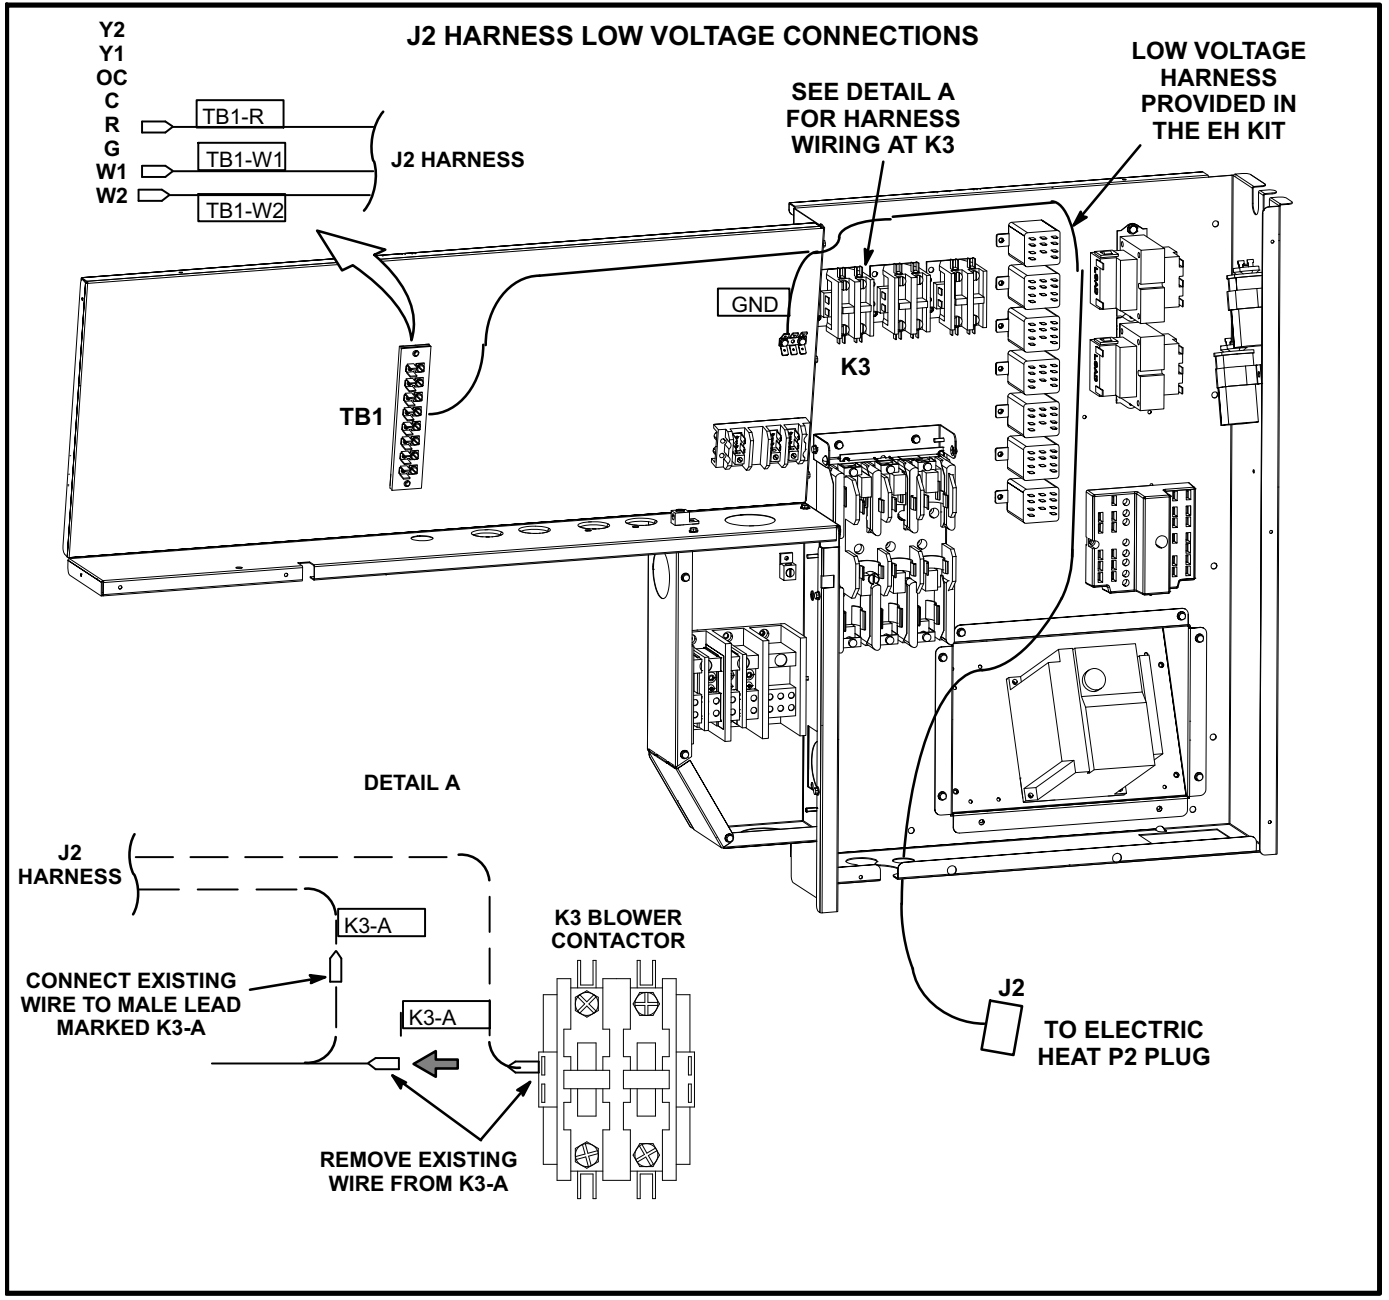

FIGURE 5
- 4- Make J2 harness connections in the control box as shown in figure 5.